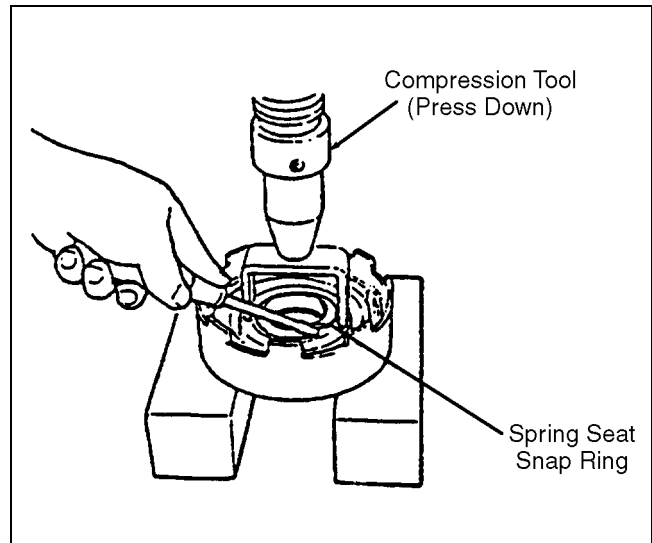

**Figure 4J-13. Remove Spring Seat Snap Ring**
3. Refer back to Figure 4J-12 and remove the outer O-ring and piston from the direct clutch drum. If necessary, blow air from an air gun through the front hole in the clutch drum to free up the piston from the drum.